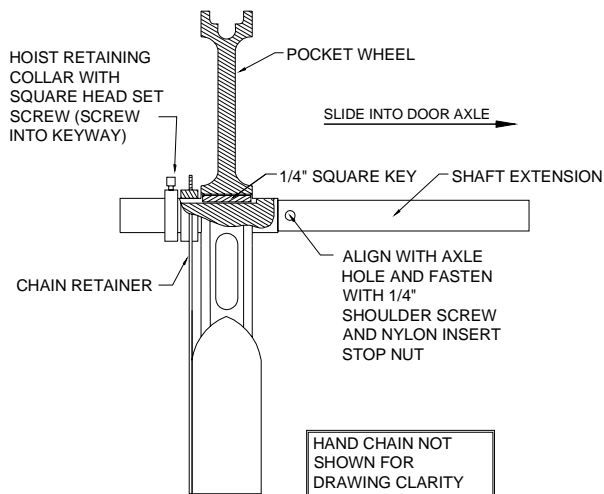

Figure 15.
11.2 **Direct drive operator** -- direct drive chain hoists can be installed on either side of the door, prior to, or after the door is hung (although there may be clearance limitations). Please reference Figure 15 for specifics.